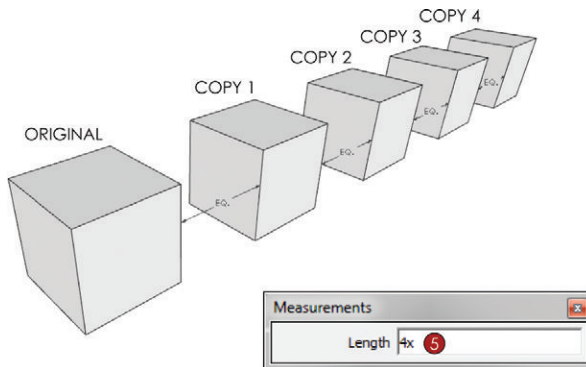

Figure 4.33 Create multiple copies at set intervals using the multiply array.
5. To create multiple copies at a specified distance, immediately after you complete the Move/Copy command, enter the number of copies you want to make—for example, type **4x**, then press Enter. This will create four copies of the selection in addition to the original, just as a copy machine would (Figure 4.33).